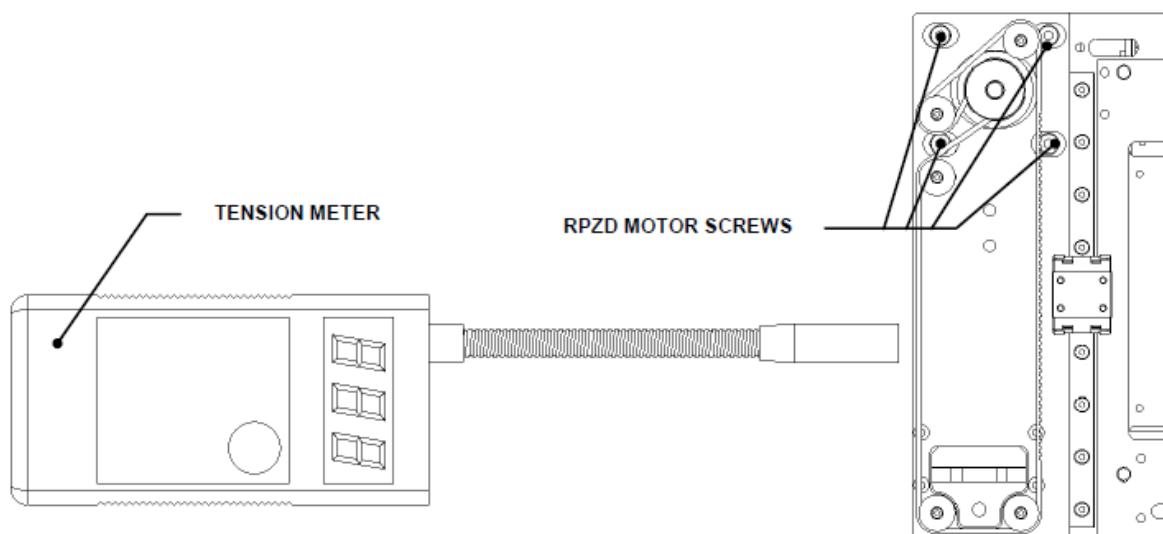

Figure O-22: Using the Tension Meter
2. Position the Tension Meter (Gates Sonic Tension Meter 507C, Brecoflex SM4, or equivalent) at the position indicated in Figure O-22. The Tension Meter must be 3-6mm away from the belt to obtain a reading.
The LED part of the Tip Detector Harness fits through the Reagent Pipettor Z Drive Eject Motor Spacer as shown in Figure O-22. To replace the LED, slide it onto the Reagent Pipettor Z Drive Tip Detector LED Block and insert them into the Reagent Pipettor Z Drive Eject Fork Housing together with the Reagent Pipettor Z Drive Tip Detector LED Spacer (23504280). Check the assembly remains flush with the Reagent Pipettor Z Drive Eject Fork Housing.